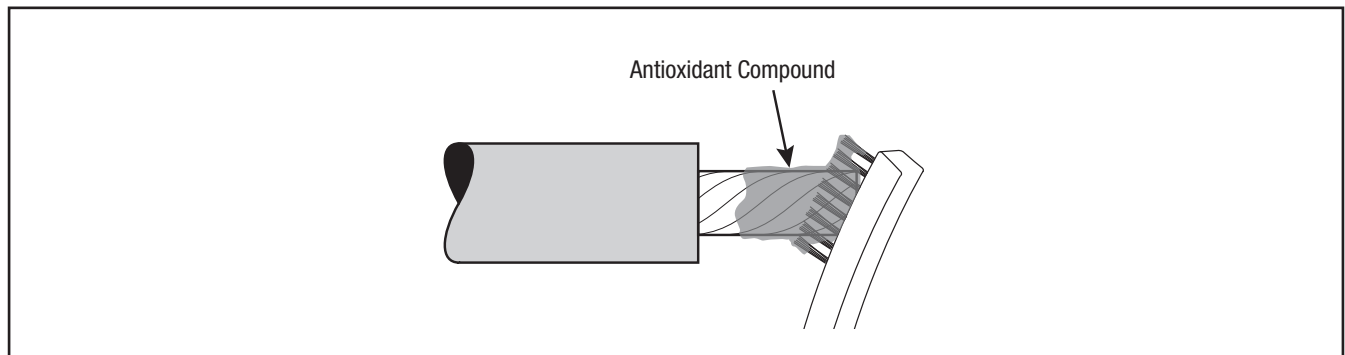

Figure 8
- 3.5 Install connector. See table (on cover) for proper connector dimensions. (For standard 3M Connectors, refer to table at the end of this instruction for crimping information). If using an aluminum conductor, wire brush aluminum strands and then insert into connector. Remove excess inhibitor compound and remove conductor from connector. Wire brush aluminum strands again. Insert into connector and crimp. Remove any excess oxidation inhibitor from connector ends (*Figures 8 and 9*). File sharp connector flashing, if necessary, taking care to remove all metal filings from splice area.